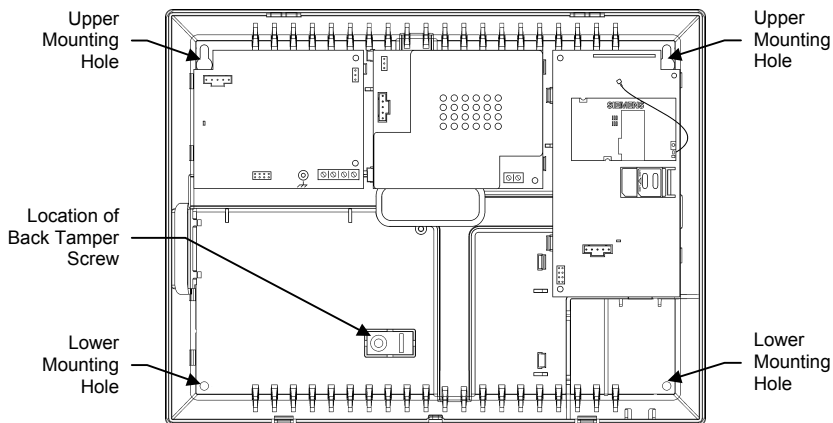

Figure 2.5: Back Cover (Main Board and Battery Pack removed)
3. Remove the backup battery pack. If you want to install the control panel with back tamper, it is also necessary to disconnect the flat cable connecting the Main board to the front panel keypad and remove the Main board. Figure 2.5 shows the control panel with the Main board and the battery pack removed.